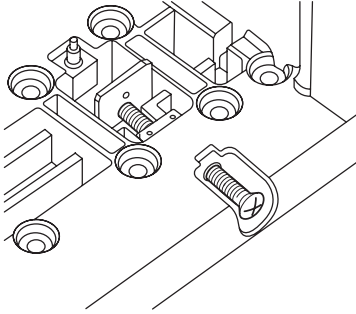

Figure 28
1. Tightening the adjusting screw will force the bypass flapper to open. The open flapper will allow untreated (hard) water to blend with the treated water supply. As the adjusting screw is tightened, the hardness of the outlet water increases (Figure 28).